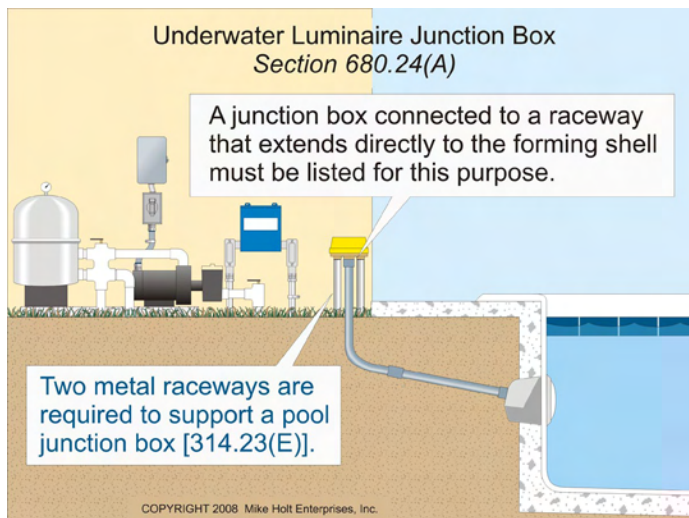

Figure 680-25
(A) Junction Box. The junction box (deck box) that connects directly to an underwater permanently installed pool, outdoor spa, or outdoor hot tub luminaire forming shell must comply with the following: **Figure 680-25**
(1) Construction. The junction box must be listed as a swim-